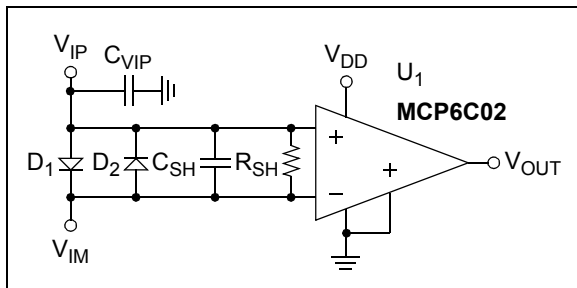
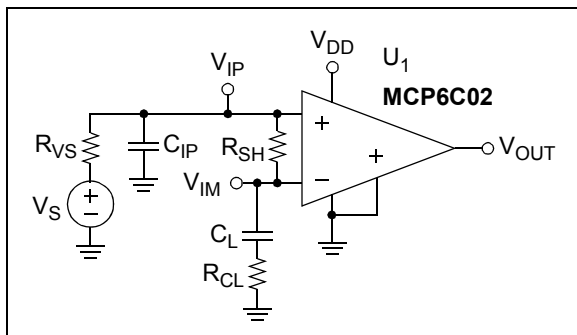

FIGURE 5-2: Protecting V_{DM} with Diodes.
FIGURE 5-3: Protection for Capacitive Loads.
The shunt resistor (R_{SH} in Figure 5-2 keeps V_{DM} in range, as long as the load current is not too high. If extra protection is needed in your design, ideas to consider include:
- Limit V_{DM} (see Figure 5-2)
Limiting the current from V_S helps protect the circuit in Figure 5-3. The resistance seen by V_S (R_{VS} (V_S 's ESR) and R_{CL} (C_L 's ESR)) helps reduce step response overshoot, which provides more protection. Using C_{SH} (see Figure 5-2) will create a voltage divider for fast edges; be careful to limit the resulting V_{DM} .